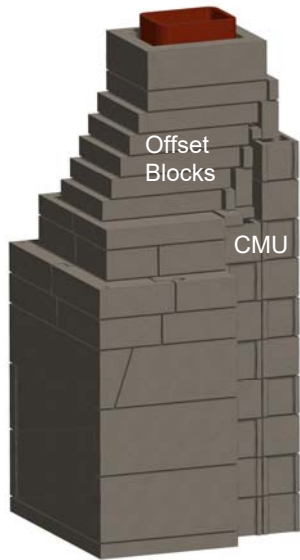

Figure 22. Offset Blocks and CMU Support
C. The chimney is completed by stacking as many flue sections as necessary to reach chimney height. Chimney plumbing can either be straight through the ceiling and through the roof, or if the fireplace is installed on an outside wall, the chimney can be external to the house. When needed offset blocks can be used for the chimney and should be engineered to structurally support the offset with CMU or custom fabricated steel post and or angle iron capable of supporting the weight and height of the chimney. Never exceed more than a 30 degree angle when offsetting a chimney. See Figure 22.